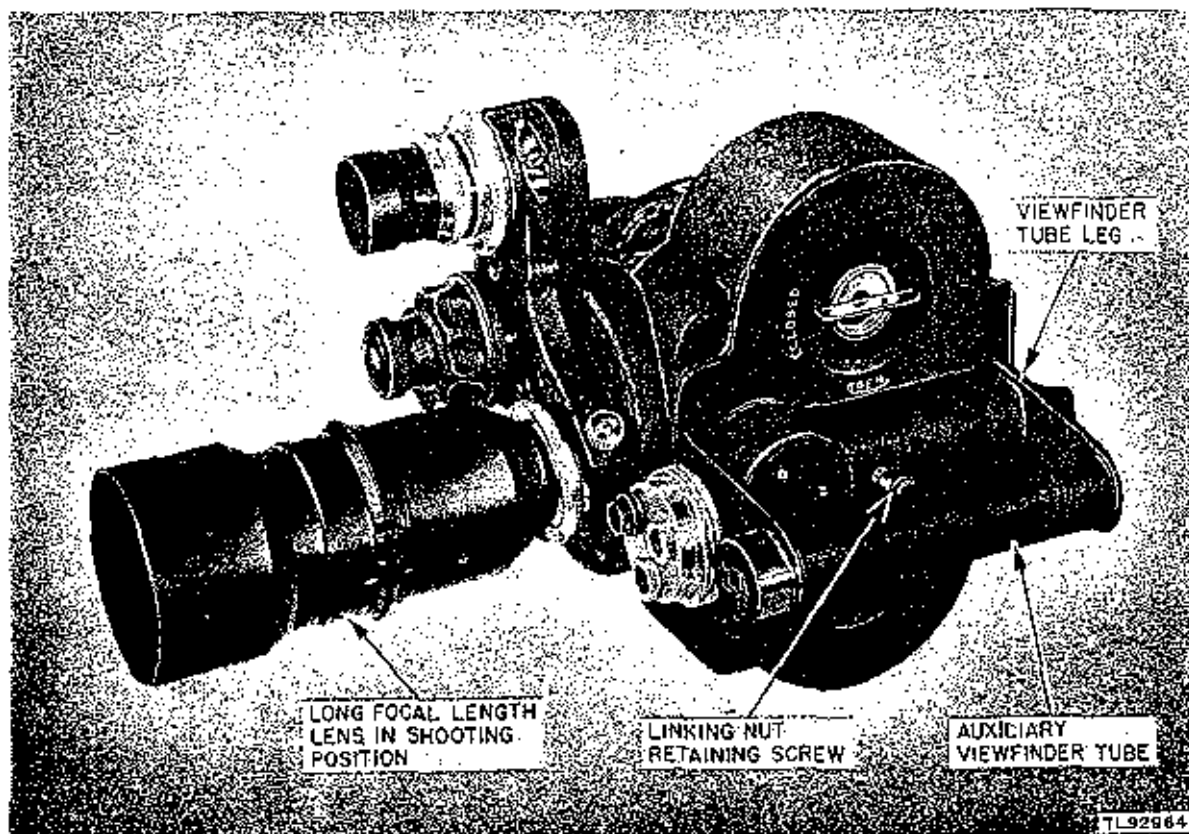

Figure 30. Camera PH-330-G, with auxiliary viewfinder tube attached.
c. Auxiliary Viewfinder. When lenses of long focal length and wide aperture (fig. 30) obstruct the field of the drum or turret viewfinders, an auxiliary viewfinder tube should be mounted alongside the standard finder. This is done by setting the auxiliary viewfinder tube flush with the turret viewfinder, so that the linking nut retaining screw (fig. 30) in the center of the auxiliary tube fits naturally over the threaded stud in the center of the turret viewfinder tube (fig. 10). When properly seated, the curved legs at each end of the auxiliary finder tube (fig. 10) will encircle the turret viewfinder tube just above the knurled drum at one end and the offset eyepiece at the other (fig. 30). When positioned on the drum viewfinder, the legs of the auxiliary tube must be fitted into place around the eyepiece rim and the base of the drum finder. Drum viewfinders do not provide the threaded stud in the center for the auxiliary linkage. Eyepieces and lenses for the auxiliary viewfinder are available in both the slip-in and the screw-on types, and should be properly attached before mounting the auxiliary unit. When the scene has been composed in the auxiliary viewfinder and the camera is in position for shooting, press the operating lever for the actual take.